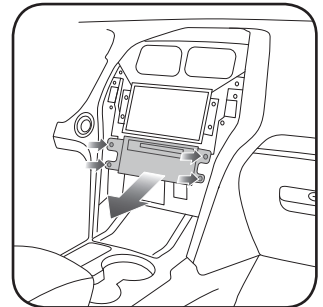

Fig. 1.4
4. Remove four (4) 7mm screws holding the OEM radio. Unplug and remove the OEM radio. (Fig. 1.4)